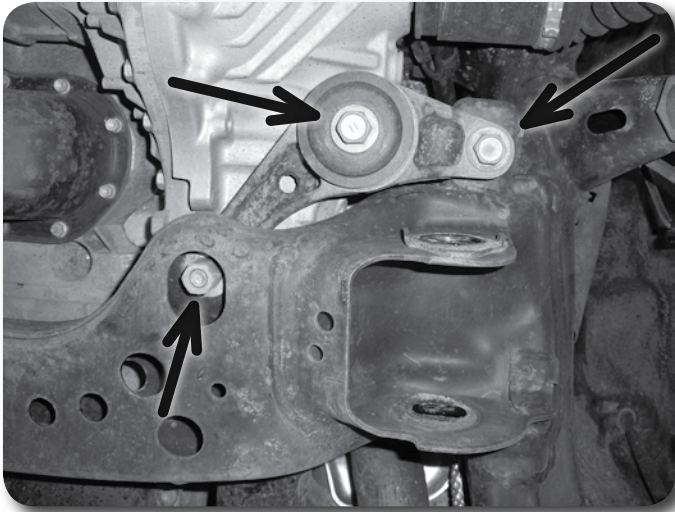
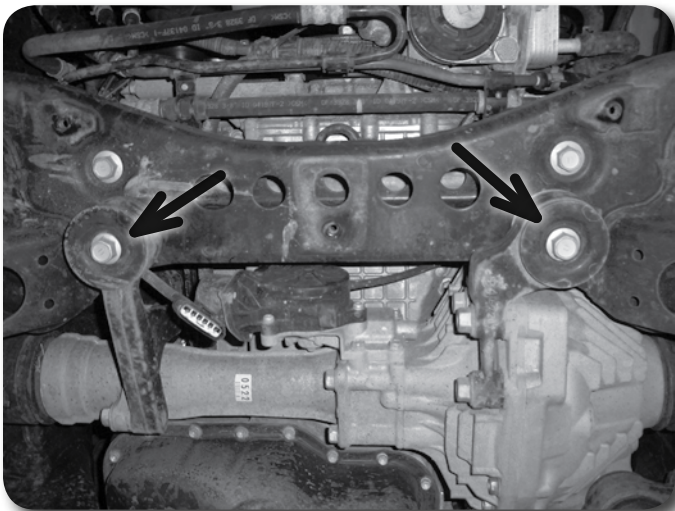

Figure 20A
Figure 20B
26. With the help of an assistant, support the front differential with a proper jack. Remove the outer bolt and inner nut mounting the rear differential bracket to the frame. Remove the bolt mounting the rear differential bracket to the differential and remove the bracket from the vehicle **Figure 20A**. Save bracket and hardware. Remove the two bolts mounting the front differential brackets to the frame **Figure 20B** and remove the differential from the vehicle.